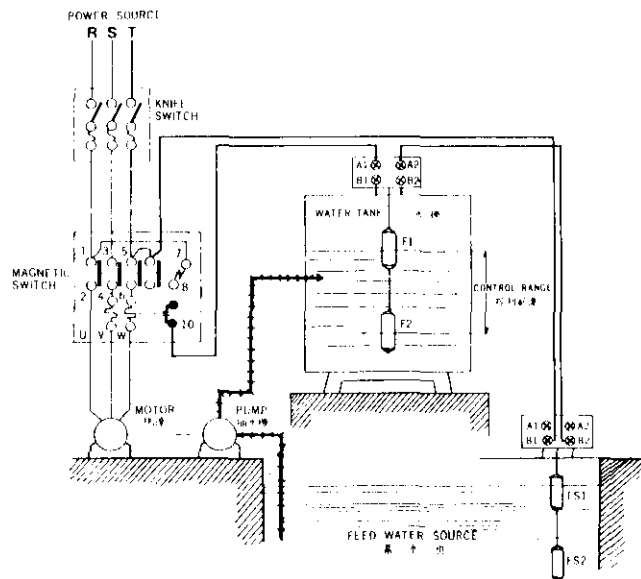

Fig. 2.
- 3) For feed water with racing preventor, connect as Fig. 2.